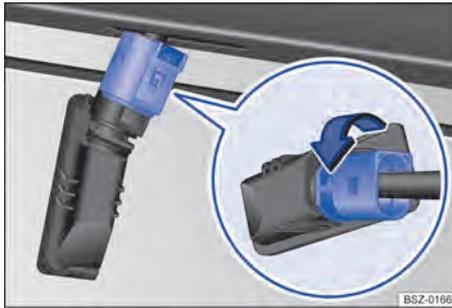

Fig. 166 Number plate light: Removing the bulb holder.
5. Turn the bulb holder in the direction of the arrow → Fig. 166 and pull it out together with the bulb.
7. Insert the bulb holder into the number plate light and turn it as far as it will go in the opposite direction to the arrow → Fig. 166.